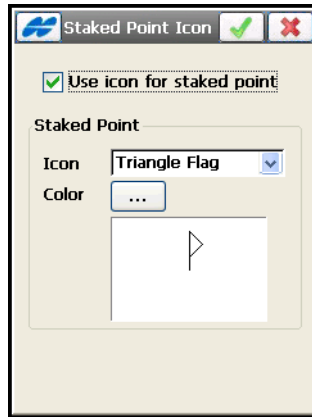

Figure 4-24. Staked Point Icon
13. To display the icon for the staked point on the map, select the *Display* option from the menu in the upper left corner of the **Stk Parms** screen. On the **Staked Point Icon** screen (Figure 4-24), set appropriate parameters for the icon.